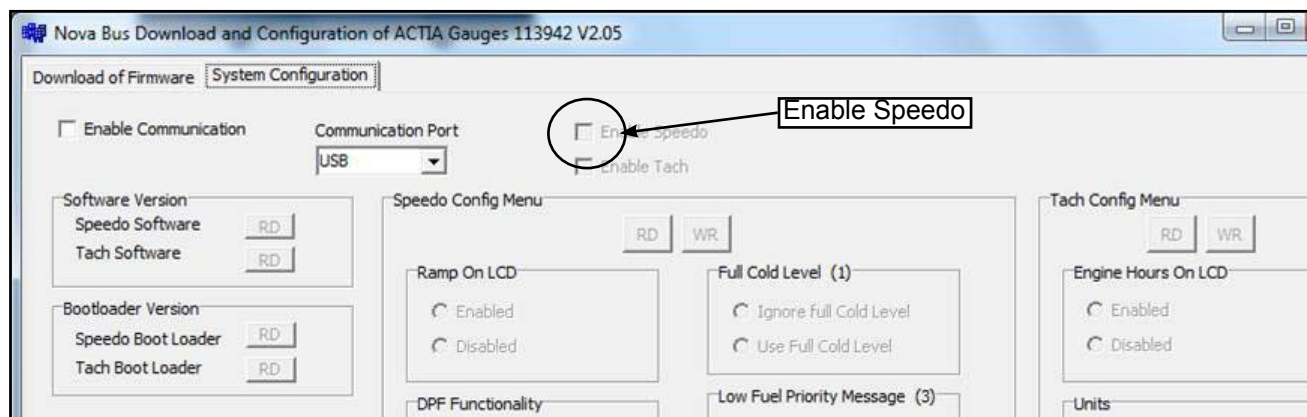

Figure 8 - Enable Speedometer
3.1.3 Check the Enable Speedo box (see Figure 8).